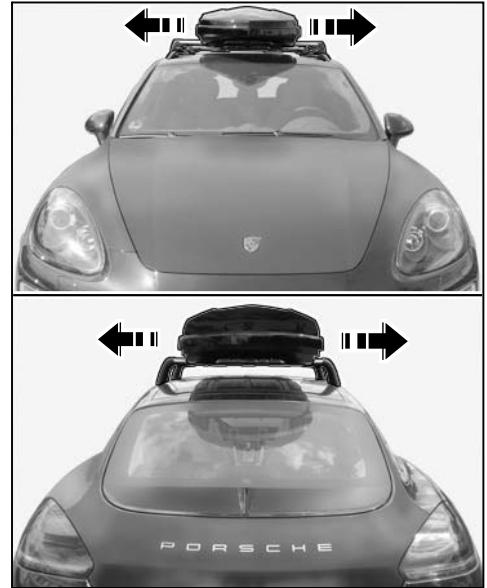

Figure 5
- 4.8.1 Sideways, with respect to the longitudinal axis of the vehicle (⇒ Figure 5):